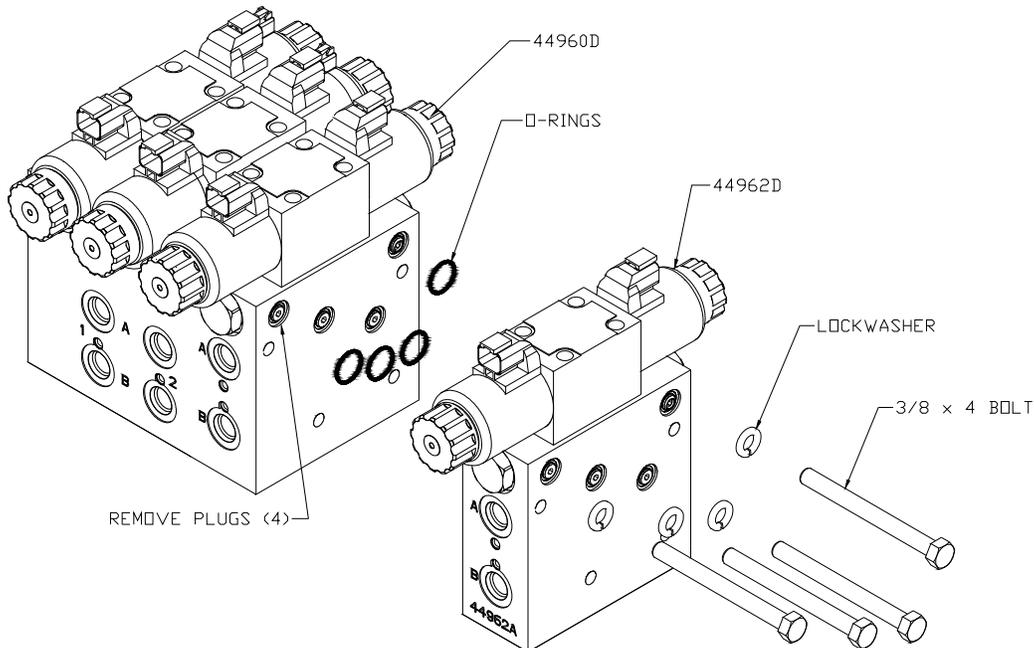

Figure 20: NORAC Expansion Block Assembly
1. Remove the four 4MBP plugs from the 3 station valve block (**Figure 20**).